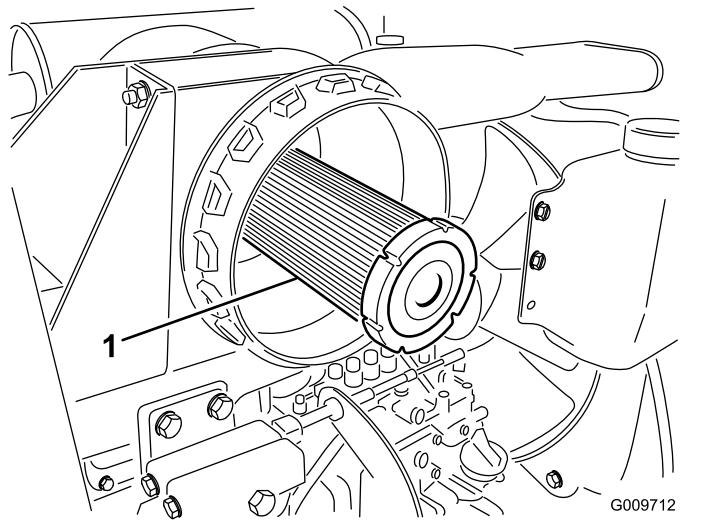

Figure 84
**Important:** Never attempt to clean the safety filter (Figure 84). Replace the safety filter after every 3 primary filter services.